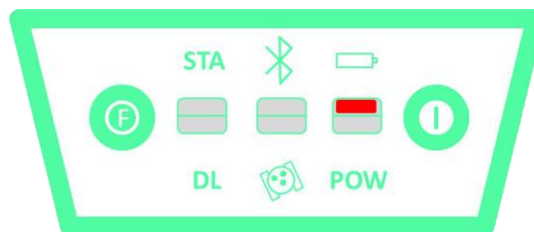

Fig. 2-7 Built-in Battery Light
**BAT (red)**: Built-in power supply light (Fig. 2-7).